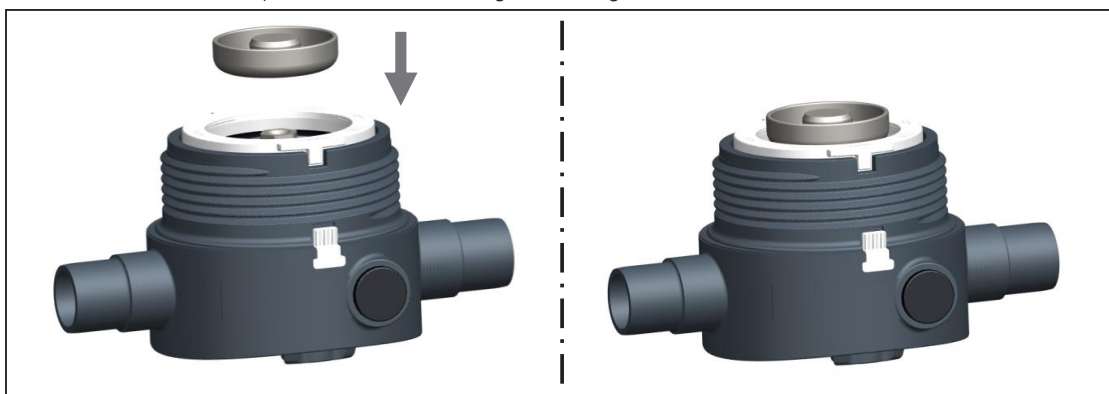

Fig. 14
- ▶ Put the Pressure piece on the cartridge, see Fig 14